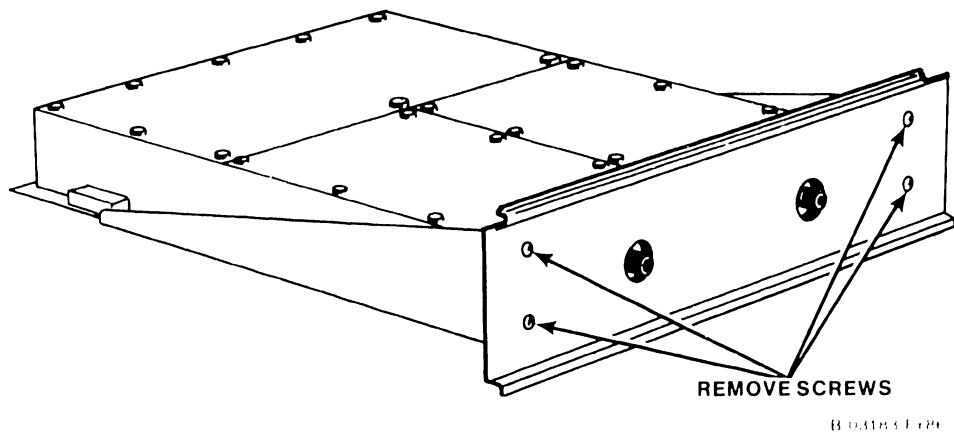

Figure C-11. Modem Mounting Panel Removal
4. Hold modem assembly upright and remove the four screws (figure C-11) which secure the Modem Mounting Panel to the Modem Mounting Plate. Remove the mounting panel.